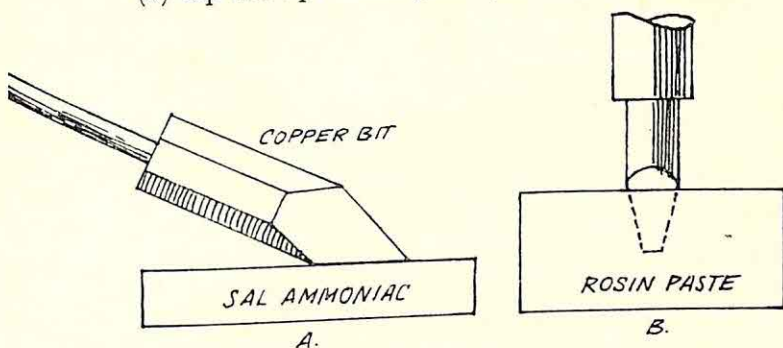

Figure 70
4. Either (a) rub the tip on a block of sal ammonia, or (b) dip the tip in flux paste (see Figure 70).